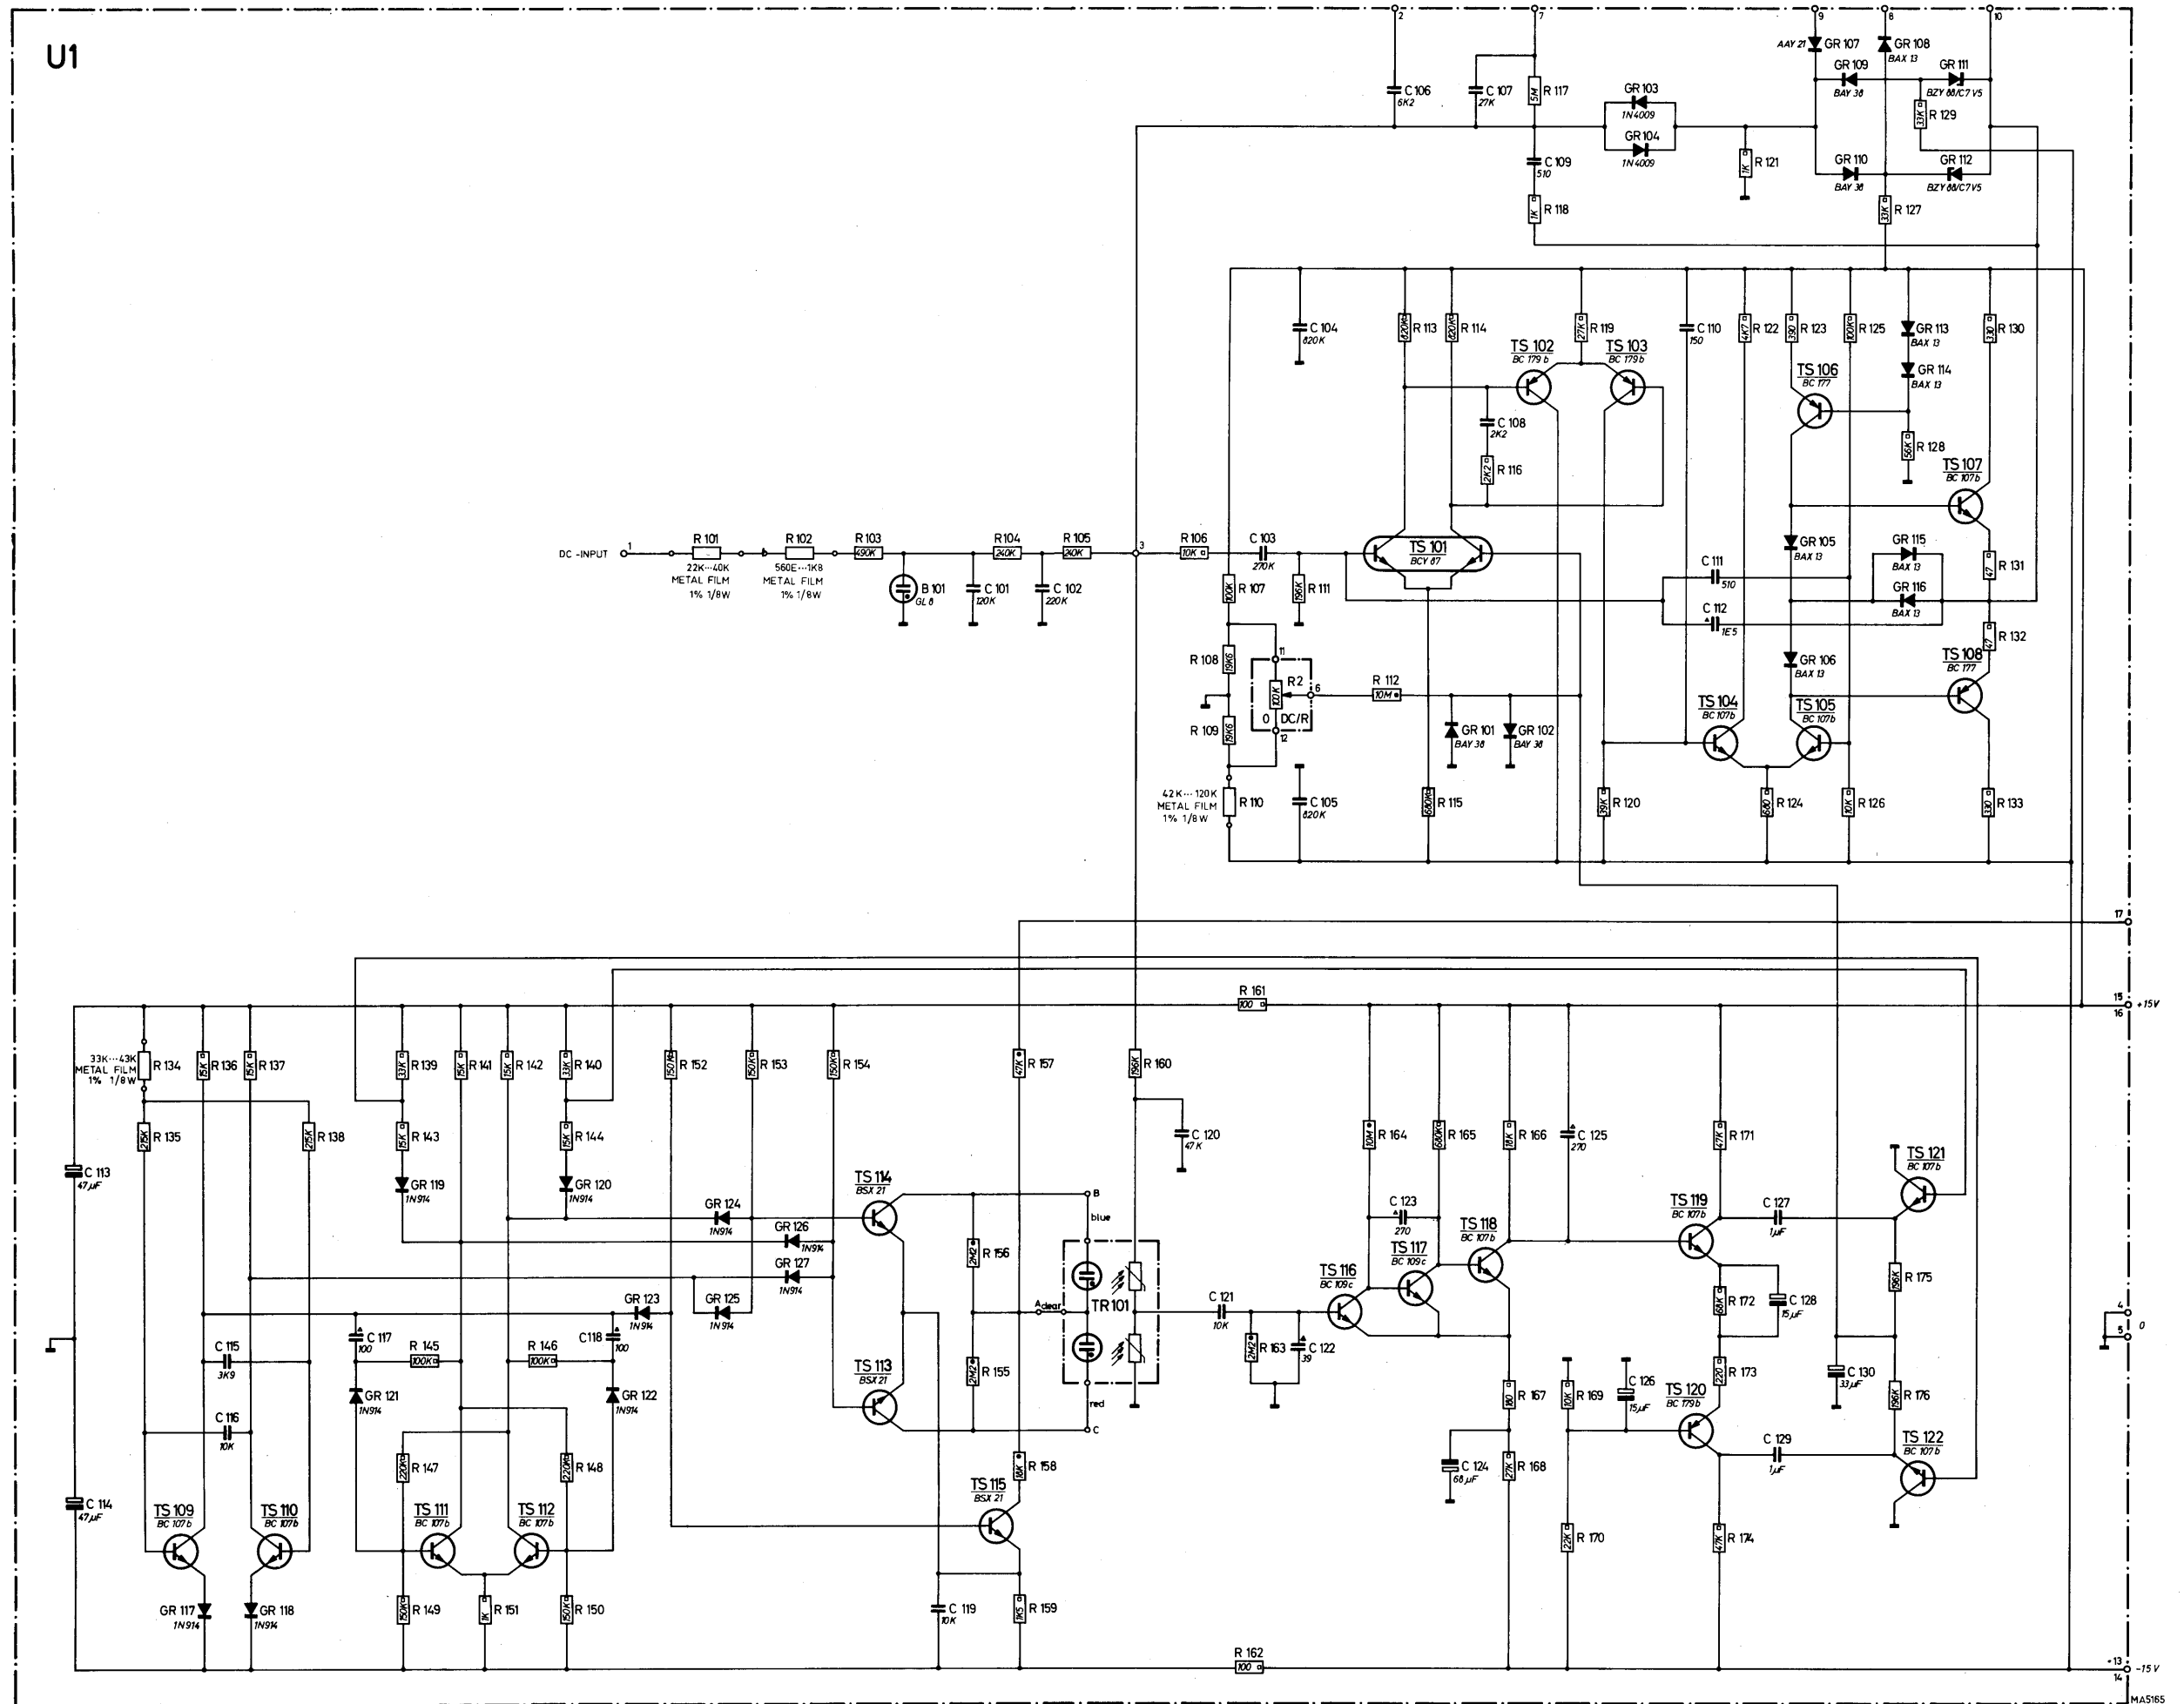

Fig. 19. Circuit diagram of the chopper-stabilised D.C. amplifier
A. CHOPPER-STABILISED D.C. AMPLIFIER (U1) Fig. 19